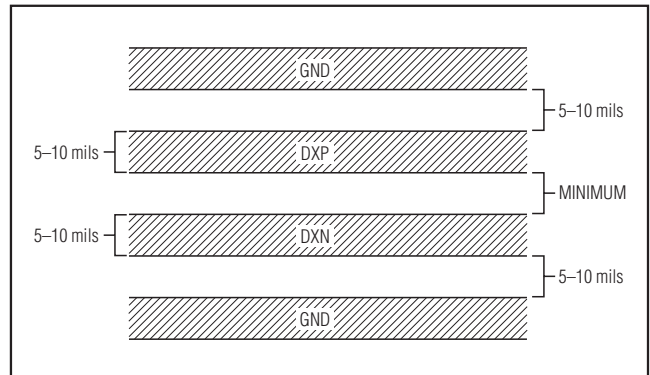

Figure 5. Recommended DXP-DXN PCB Traces. The two outer guard traces are recommended if high-voltage traces will be near the DXN and DXP traces.
- Route the DXP and DXN traces in parallel and in close proximity to each other. Each parallel pair of traces should go to a remote diode. Route these traces away from any higher voltage traces, such as +12VDC. Leakage currents from PCB contamination must be dealt with carefully since a 20M Ω leakage path from DXP to ground causes about +1°C error. If high-voltage traces are unavoidable, connect guard traces to GND on either side of the DXP-DXN traces (Figure 5).